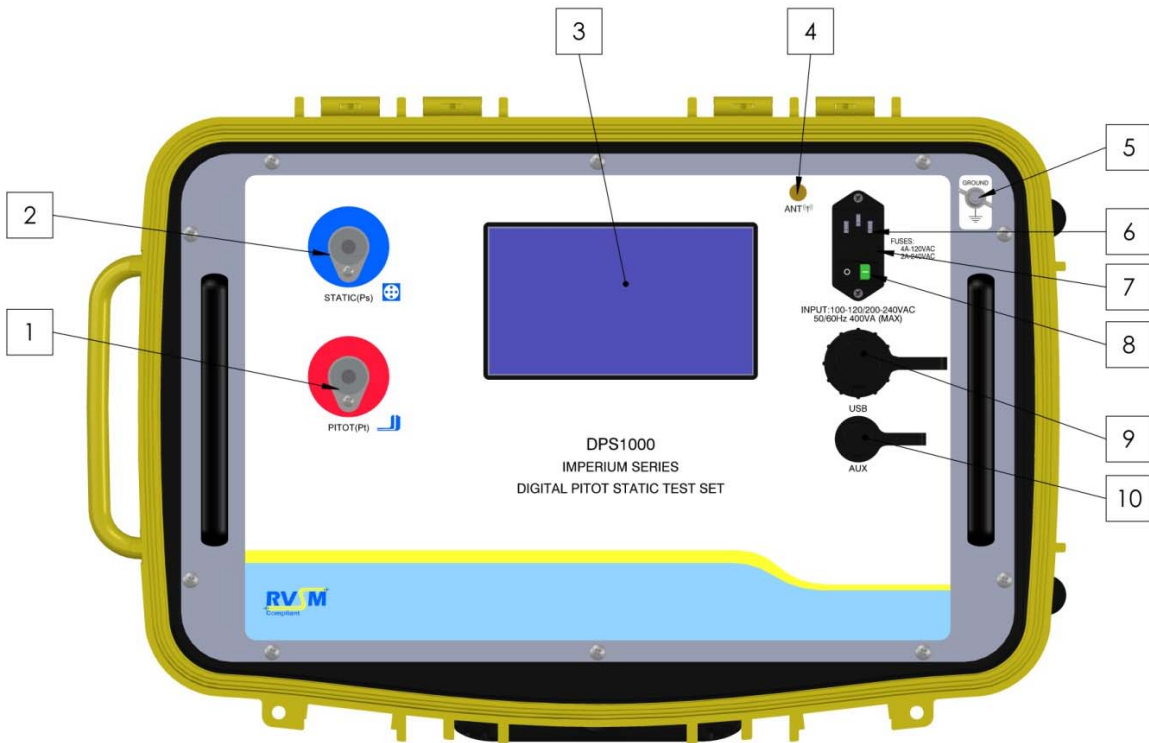

Figure 11 DPS1000 Front Panel
- B. The DPS1000 chassis may be Grounded to the aircraft or instrument under test using the Ground stud located in the upper right corner of the panel as depicted item 5 in Figure 11.